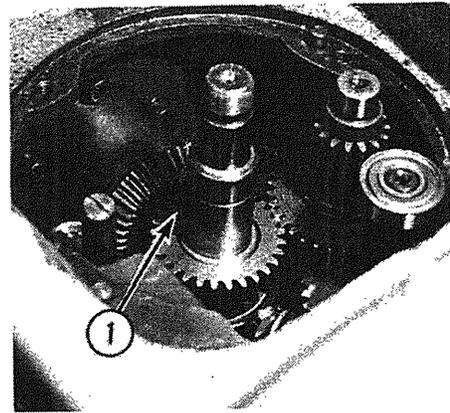

Fig. 3-31
- M. Install upper key in planetary shaft (1, Fig. 3-31).